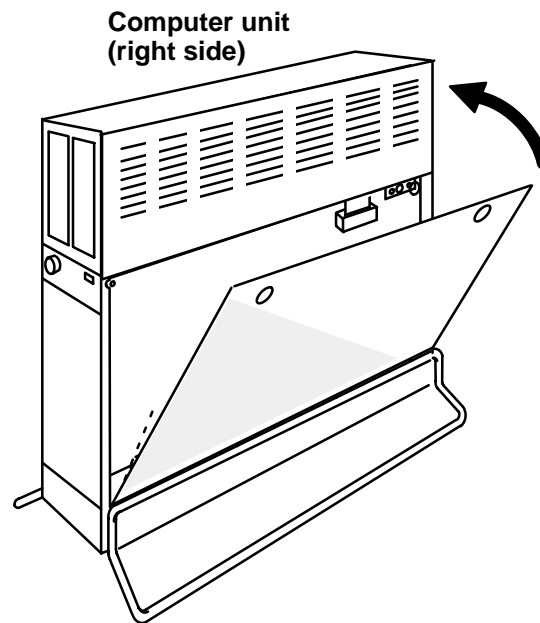

Figure 6-11 Installing the Side Covers
3. Rotate the cover as shown in Figure 6-11 so that it is against the side of the computer unit.